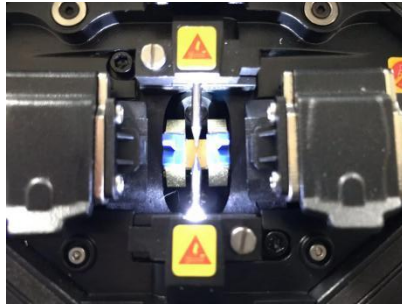

Figure 5.3
2. Loosen setscrews of electrodes cover and remove the electrodes cover, as shown in Figure 5.3